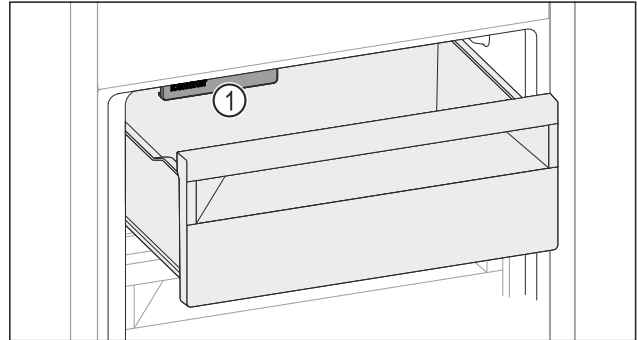

Fig. 126
- Pay attention to the IceMaker Fig. 126 (1).